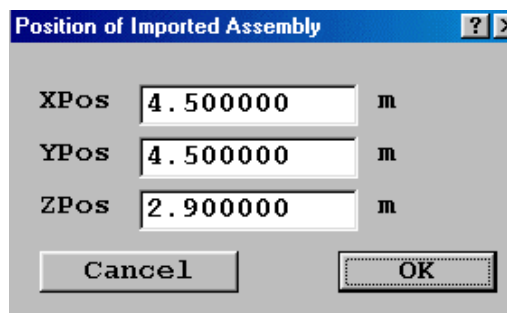

Figure 3.30 The default position of the selected object
- Enter the directory and select the desired object, then a click on 'Open' brings up the dialog box shown in figure 3.30 which allows the user to define the position of the selected object relative to the domain origin (0,0,0).